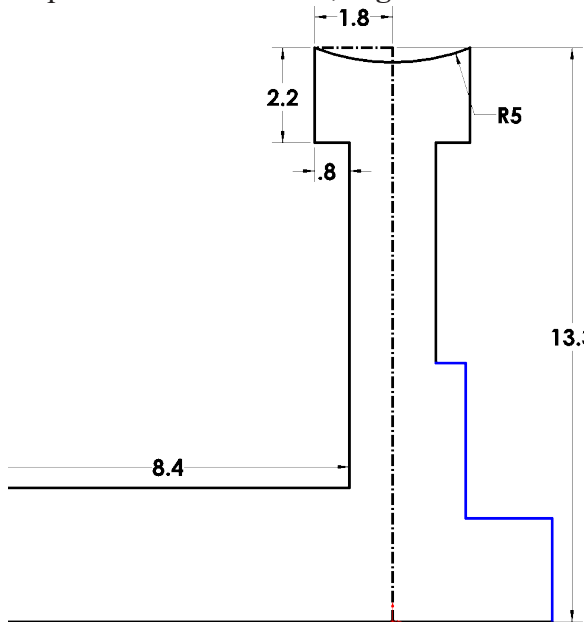
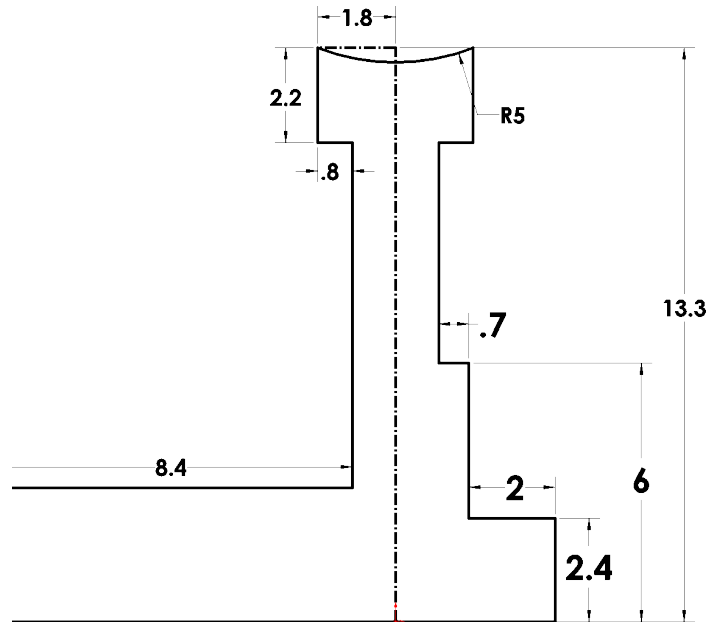

Fig. 11
Fig. 12
Step 1. Click **Line**  (L) on the Sketch toolbar.
Step 2. Sketch the **6 lines**, **Fig. 11**.
Step 3. Click **Smart Dimension**  (S) on the Sketch toolbar.
Step 4. Add dimensions, **Fig. 12**.